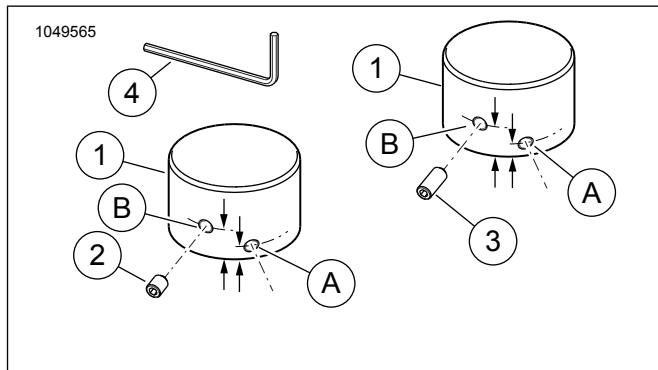

Figure 2. Front Axle Nut Cover Kit
See Figure 2 and Table 1.
1. See Figure 2. Get one cover (1) and the **longer** set screw (3) from the kit.
5. See Figure 2. Tighten the set screw securely with the hex wrench (4).